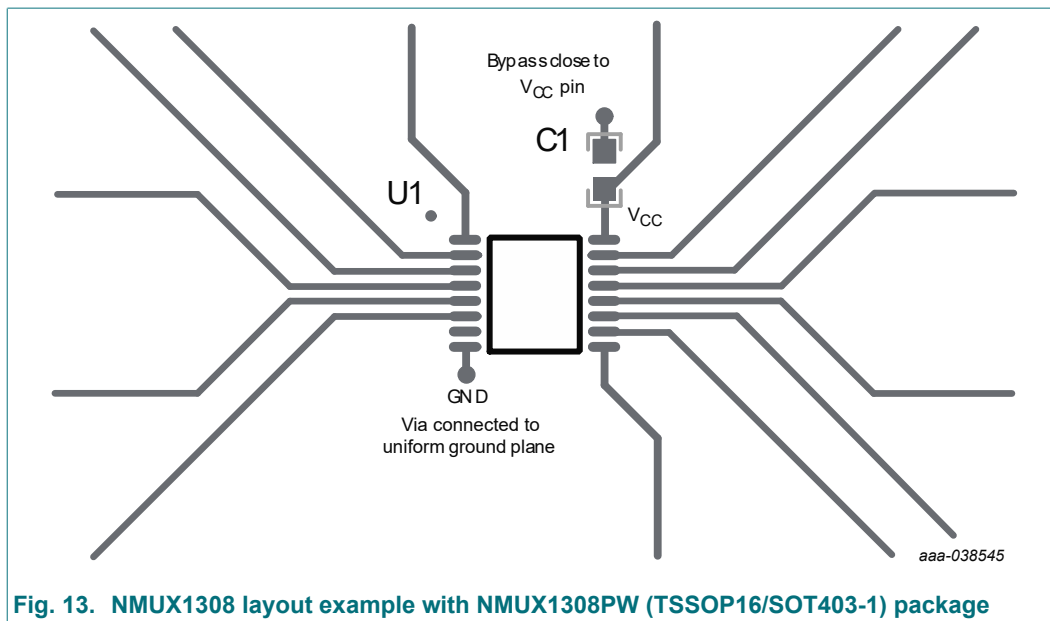

Fig. 13. NMUX1308 layout example with NMUX1308PW (TSSOP16/SOT403-1) package
The image provided below (Fig. 13) offers a glimpse into an example PCB layout with the (PW) package. Bypass capacitors should be positioned near the V_{CC} pin, and the GND pin should be connected to external/internal GND planes. A uniform GND plane helps in reducing noise and minimizing loop inductance, thereby ensuring optimal performance.